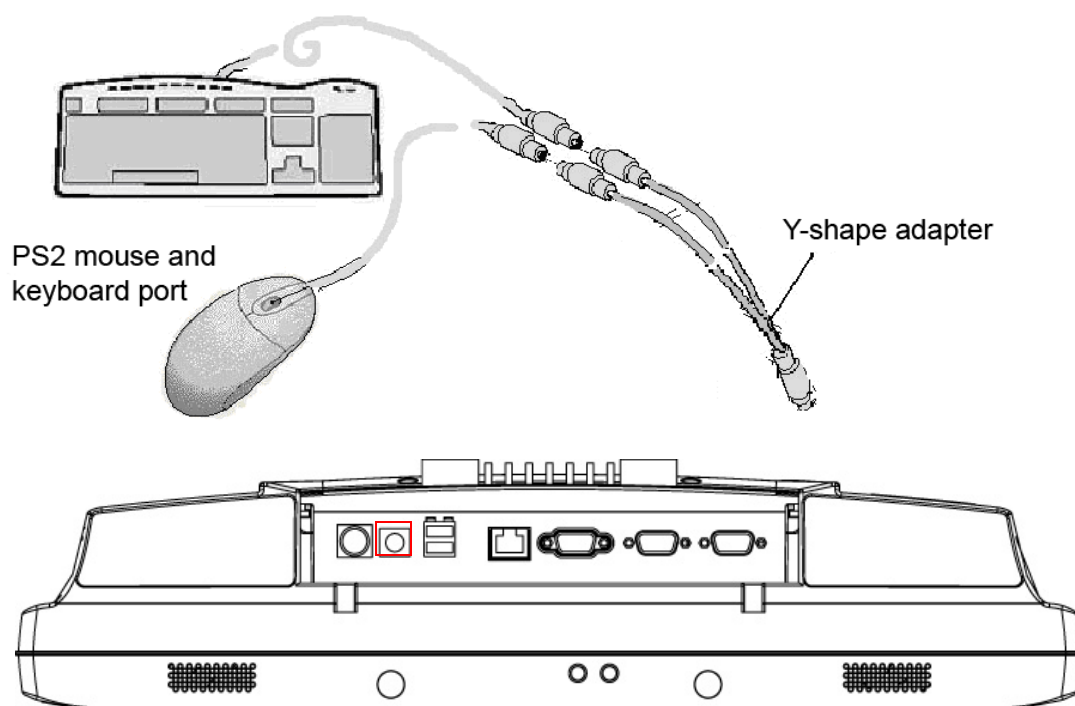

Figure 2.4: Connecting the mouse and keyboard
1. Connect the Y-shaped adapter to the PS/2 mouse and keyboard port on the I/O section of the POC-S195. (See Figure 2-4.)
2. Connect the PS/2 mouse and keyboard to the Y-shaped adapter. (See Figure 2-4.)